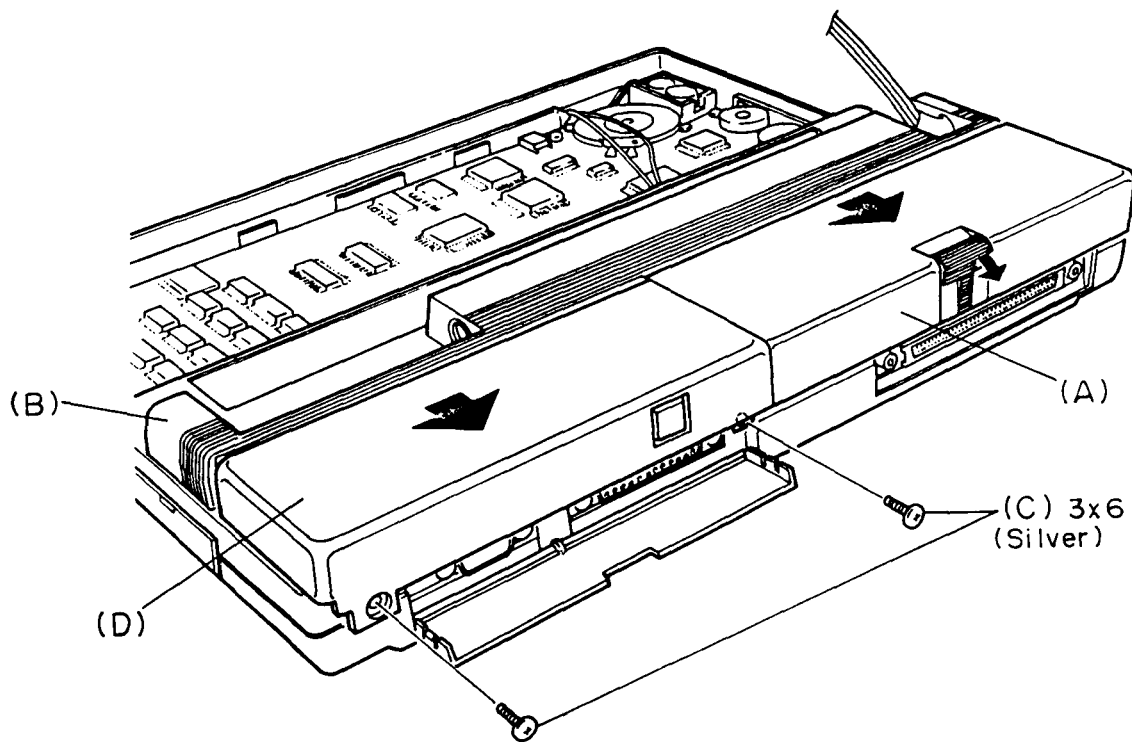

Figure 4-15 Removing the modem cover
2. Remove the battery pack (A) from the top cover (B).
3. Remove the two screws (C) fixing the modem cover (D). Refer to figure 4-15.